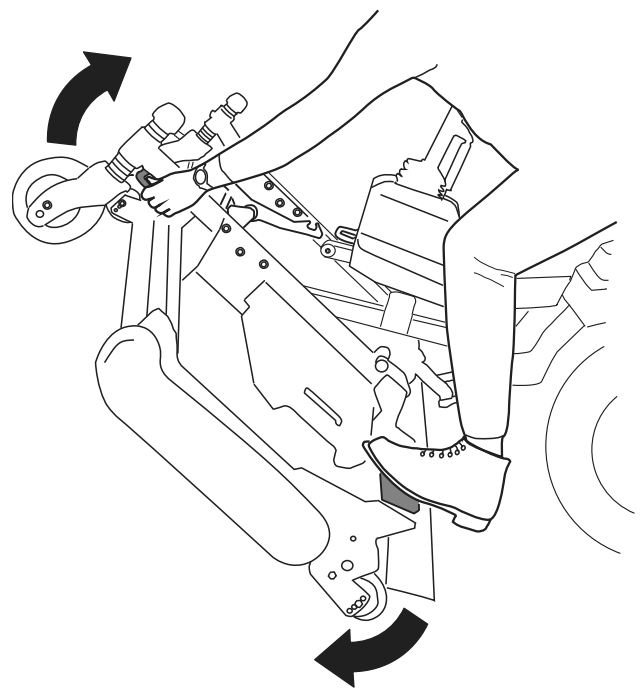
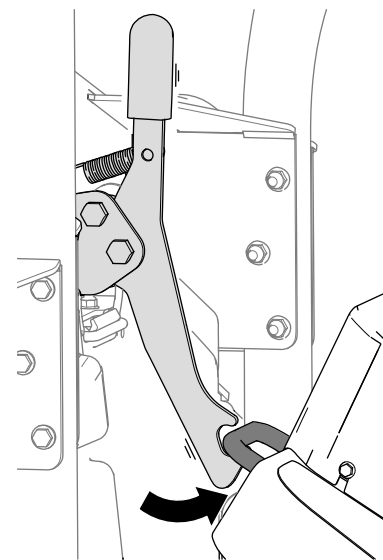

Figure 40
Figure 41
5. Rotate the cutting unit (Figure 40) so that the latch engages with the tie-down bracket (Figure 41).
1. Release the cutting-unit latch from the tie-down bracket (Figure 42) by rotating the cutting unit slightly forward (refer to Figure 40) and pulling the latch handle forward.